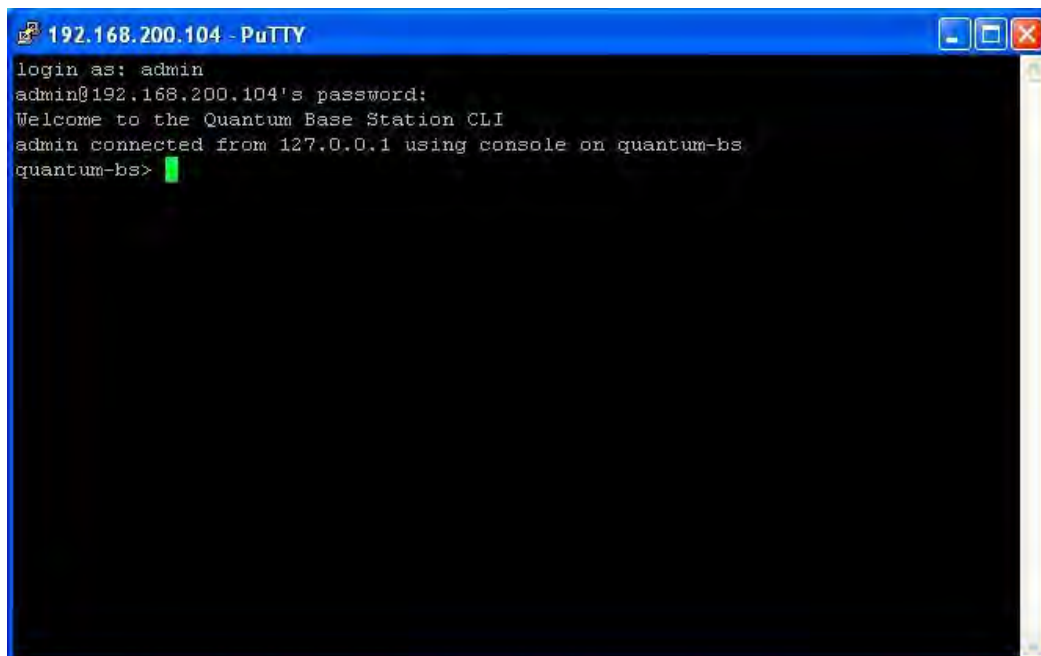

Figure 6 Console Login Default Status
3. After this login, the User will be presented at the *hostname prompt* (Figure 6). If the Base Station is still in its default status, then the hostname prompt will be *quantum-bs*.